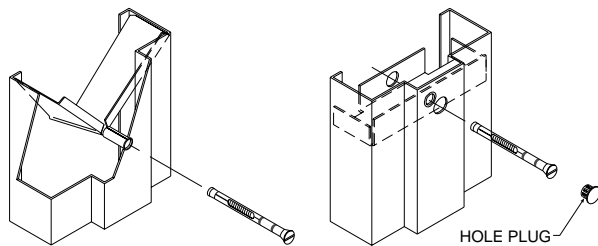

Figure 9 – Anchors
6. Insert anchor bolts and tighten securely, checking for frame alignment periodically (see figure 9).